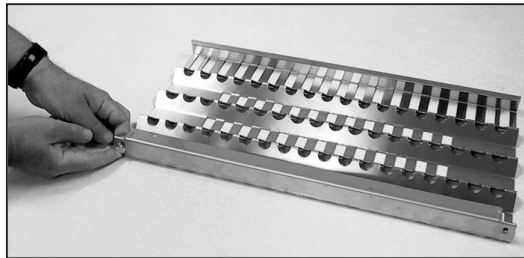

FIG.13
2. Unlock radiant end cap by pushing it up with two fingers (Fig. 13).
- a) *Unlock radiant end cap by pushing it up with two fingers (Fig. 13) or pliers may be used.*